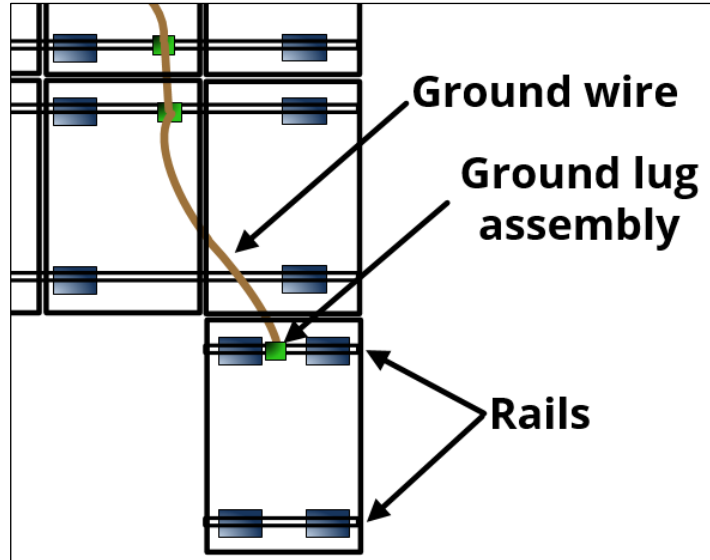

Fig. 35
- Attach a ground lug assembly to one of its rails (Fig. 35), and route the copper ground wire to it.